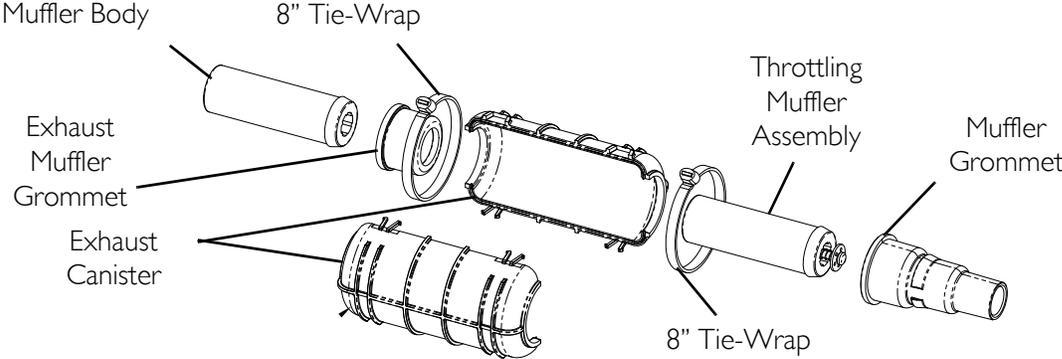

FIGURE 6.5 Replacing the Muffler Assembly
NOTE: For this procedure, refer to FIGURE 6.4 on page 28 and FIGURE 6.5 on page 29.
8. Separate the muffler assembly (Detail "A" in FIGURE 6.5).